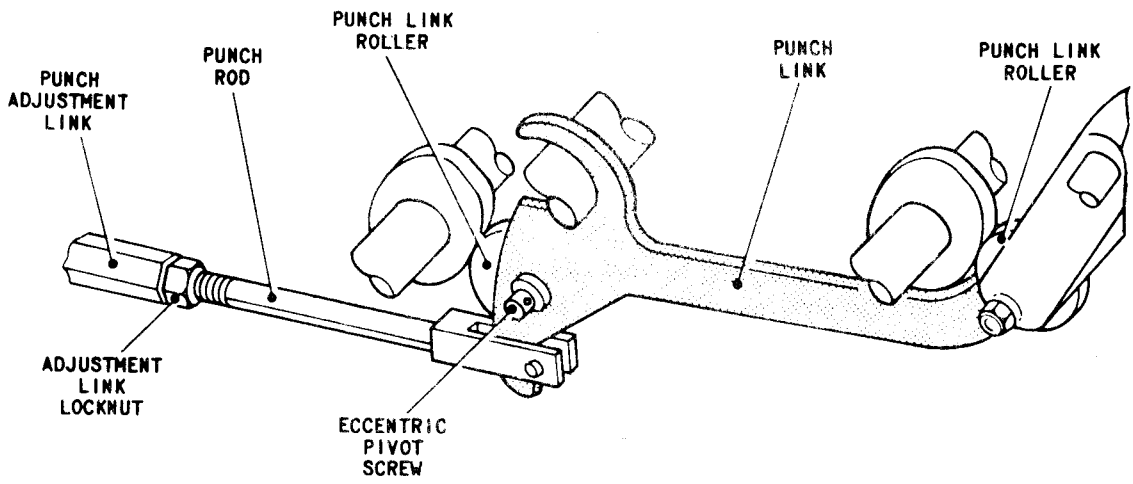
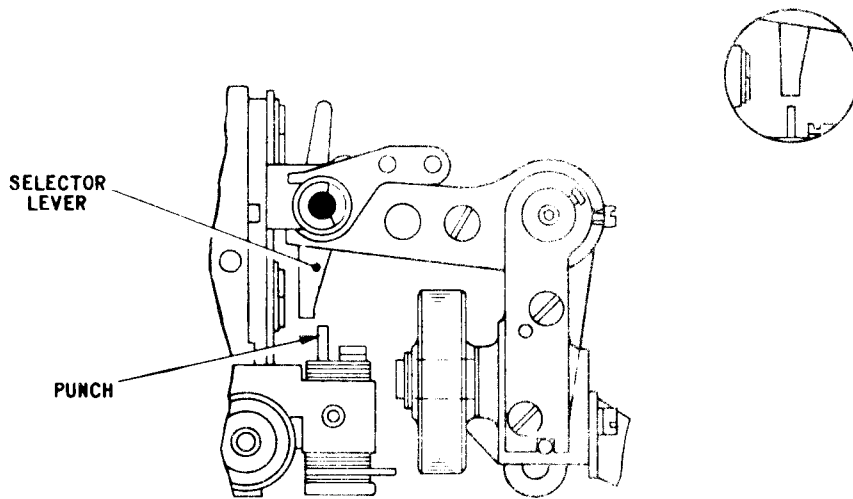
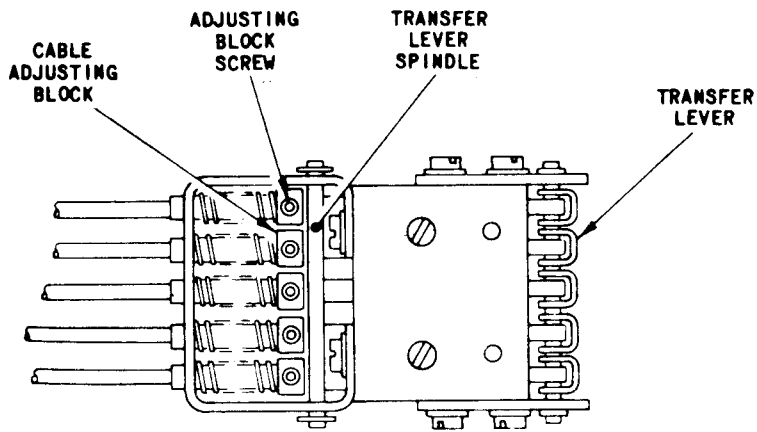

FIG. L.7 PUNCH LINK MECHANISM
FIG. L.8 PUNCH SELECTOR MECHANISM
FIG.L.9 SELECTOR CABLES
- 5.1 With the machine in the rest position, check that the two punch link rollers, Fig.L.7, are touching their respective cams.
- 6.1 With the machine in the rest position, check that the endwise movement of the punches, Fig.L.8, is between .003 - .030 in. Check also that all the slack movement in the punch rod, Fig.L.7, is taken up by the punch retraction spring.
- 6.2 To adjust, slacken the locknut securing the punch adjustment link and unscrew the link until it is slack and the punches, Fig.L.8, have little or no endwise movement. Slowly retighten the link, Fig.L.7, until the slack is just taken up and then tighten by a further half-turn. Secure the link in this position with its locknut.
- 7.1 With the machine in the rest position, check that the selector cable adjusting blocks, Fig. L.9, are located against the transfer lever spindle. Depress the letter 'T' Key or, if the machine has no Keyboard, set up the letter 'T' combination (SSSSM) on the pins. Lift the translator clutch abutment and turn the machine by hand through approximately half a revolution of the translator camshaft and check that the fifth element punch selector, Fig.L.8, just covers its punch, as shown in the inset.
- 7.3 To adjust, slacken the socket-headed grub screw in the appropriate cable adjusting block, Fig.L.9, and slide the corresponding cable sleeve in or out until the cable is correctly adjusted. Tighten the screw.
- 7.4 With the machine in the rest position and the All Space code (SSSSS) set up on the pins, lift the translator clutch abutment and turn the machine by hand until the selector levers, Fig.L.8, have moved to the limit of their excursion towards the front of the machine. Check that the levers are now clear of their punches by approximately  $\cdot 030$  in. This ensures that the selector cables are moving freely.